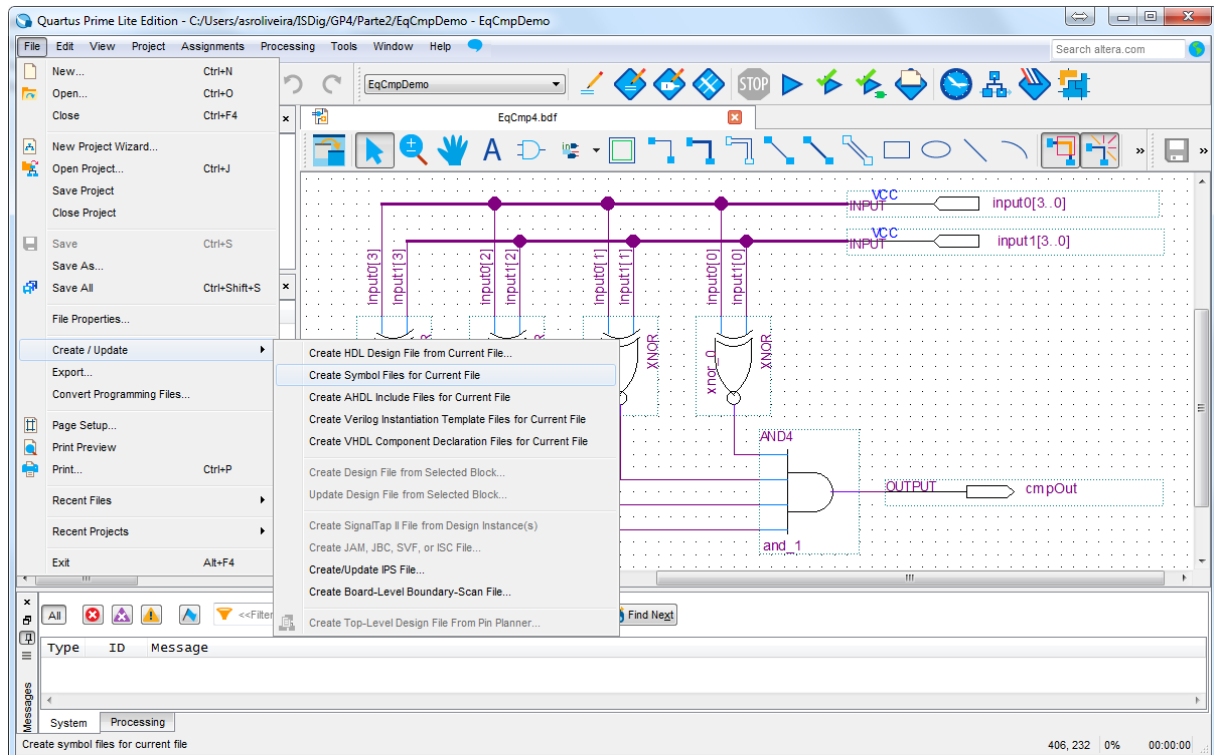
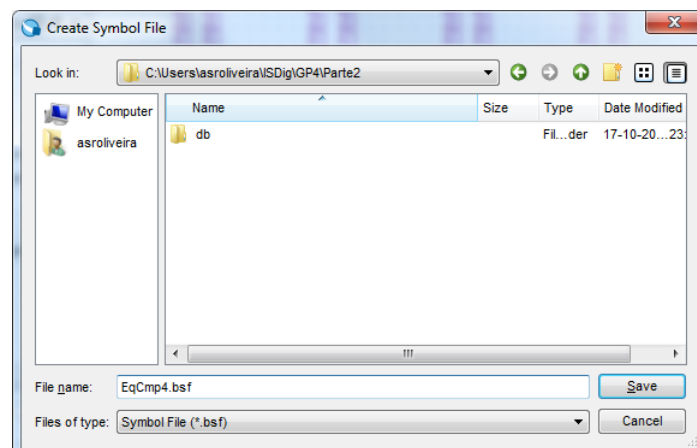

Figure 25 - Creation of a symbol for the “EqCmp4” module.
Figure 26 - Recording of file “EqCmp4.bsf” relative to module symbol “EqCmp4”.
3. Create a symbol for the “EqCmp4” module so that it can be used in a schematic diagram as shown in Figure 25 and write it with the name “EqCmp4.bsf” (Figure 26).